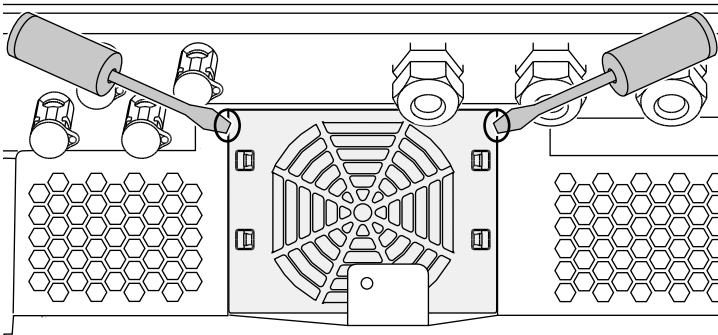

Fig. 71: Loosen fan grill
2. Dismantle the fan. To do this, place a screwdriver at the edge of the fan grill and apply slight pressure to the fan grill. ↗ **Fig. 71**